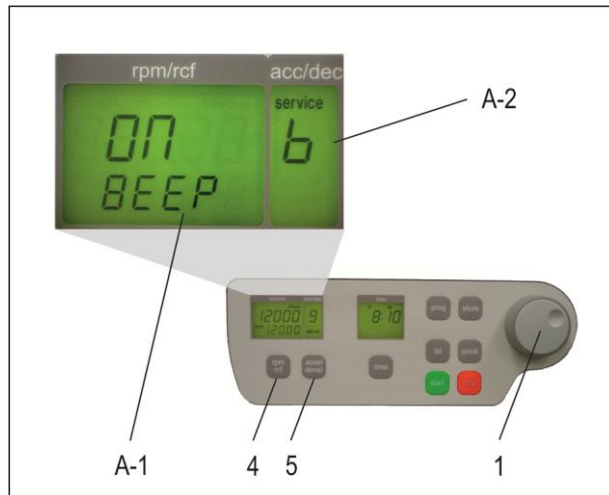

Figure 7
Proceed as illustrated, under point 1.8.1, to enter this program mode, press the key, "accel/decel" (5). In the display; "accel/decel" (A-2) flashes the word, "service". Select the letter, "b" with the adjustable knob (1). As a result, appearing in the display, "rpm/rcf" (A-1), the word "ON/BEEP". By pressing the key, "rpm/rcf" (4), the keyboard sound (On) or (Off) can be turned on, with the adjustable knob (1), (see Figure 7).